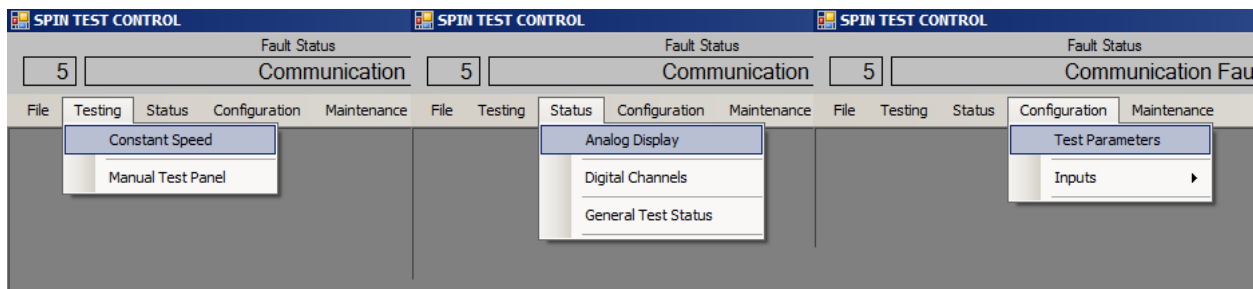

Figure 10: Setup workstations
2. Open all workstations in order to configure parameters. Figure 10 displays all required fields.